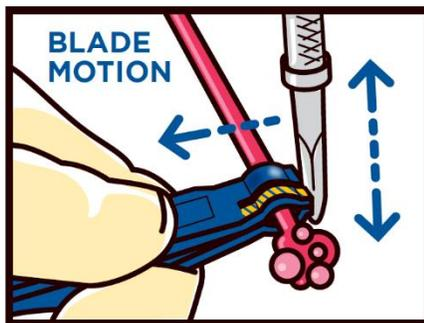
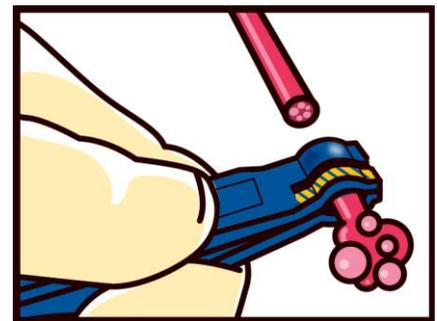

Figure 6
Figure 7
- Insert blade carefully into the cutting slot to avoid damage to its cutting edge. With the blade in the cutting slot, use an oscillating movement under slight pressure and constant tension (Figure 6) to produce a straight, smooth resection of the nerve end (Figure 7).